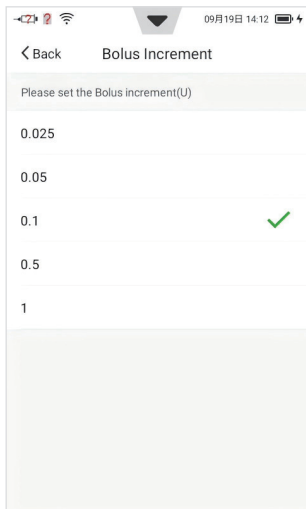

Figure 67
- a) The Bolus Increment setting (Figure 67) allows you to set the interval used when increasing or decreasing bolus amounts.